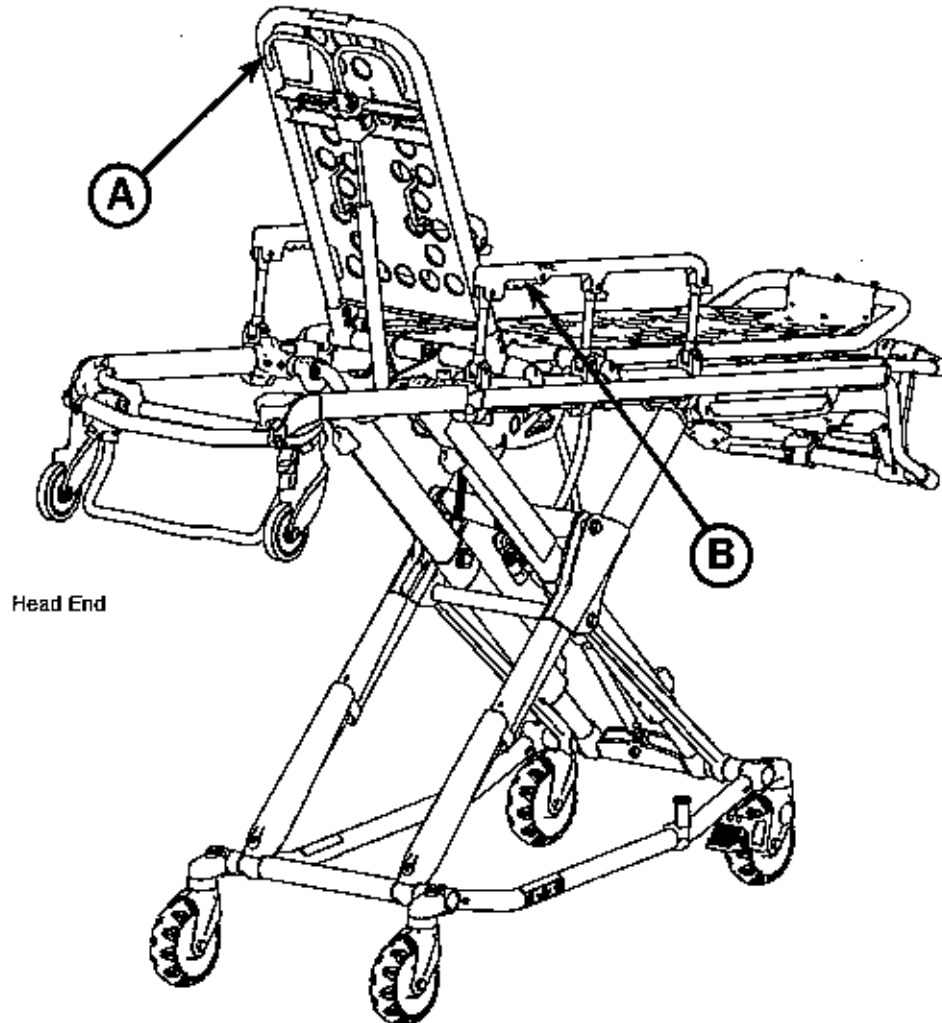

Figure 50
To raise the backrest, as shown in Figure 50, squeeze handle (A) for pneumatic assist in lifting the backrest to the desired height.
To raise the siderails, as shown in Figure 50, lift up on the siderail until the latch clicks and the siderail locks into place.